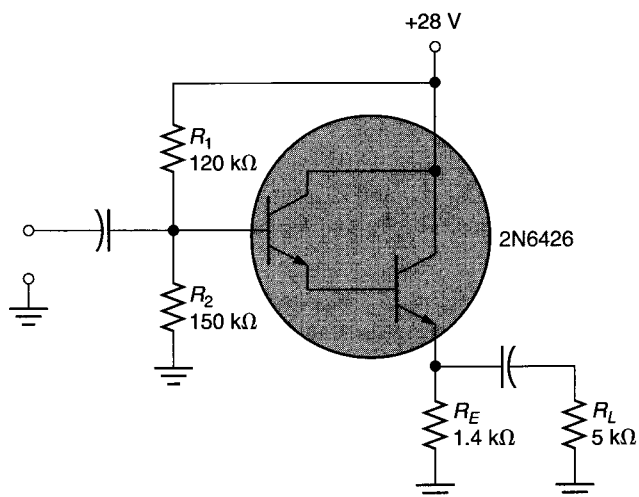

FIGURE 10.36
37. Determine the values of  $A_v$ ,  $A_i$ ,  $A_p$ ,  $Z_{in}$ , and  $Z_{out}$  for the amplifier in Figure 10.36. The spec sheet for the Darlington transistor is located in Appendix A. Use the “quick” analysis approximations in your analysis.